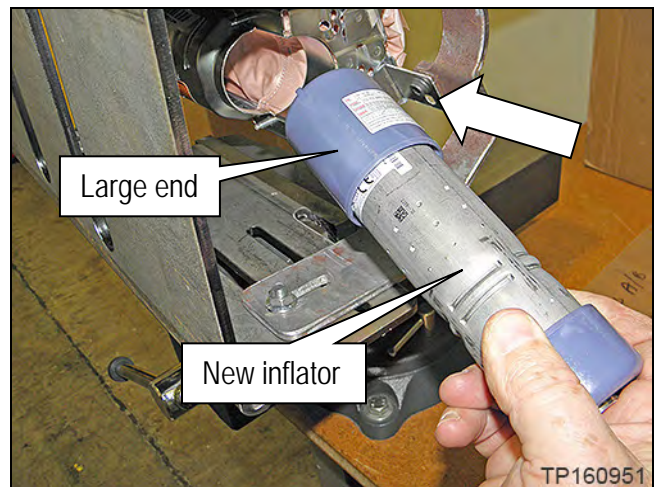

Figure 47
40. Insert the new inflator large end first, as shown in Figure 47 from the right side.